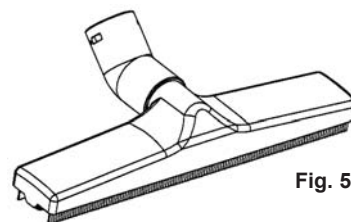

Fig. 5
- 4.1.1 The brush nozzle is used on large, dry areas such as a floor or a bed. Refer to Fig. 5.